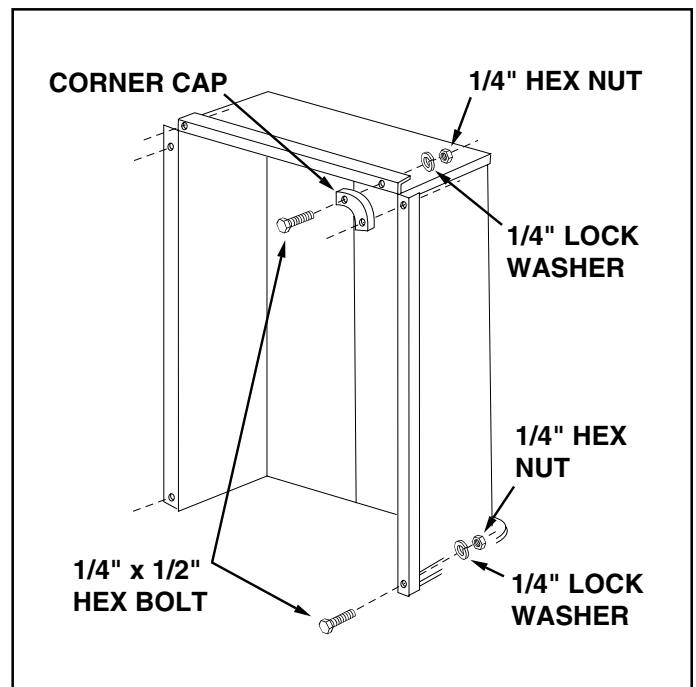

FIGURE 8
12. Assemble the two corner caps to the front corners of the cart using four 1/4" x 1/2" hex bolts, 1/4" lock washers and 1/4" hex nuts. Also assemble two 1/4" x 1/2" hex bolts, 1/4" lock washers and 1/4" hex nuts to the two rear corners of the cart. **TIGHTEN**. See figure 8.